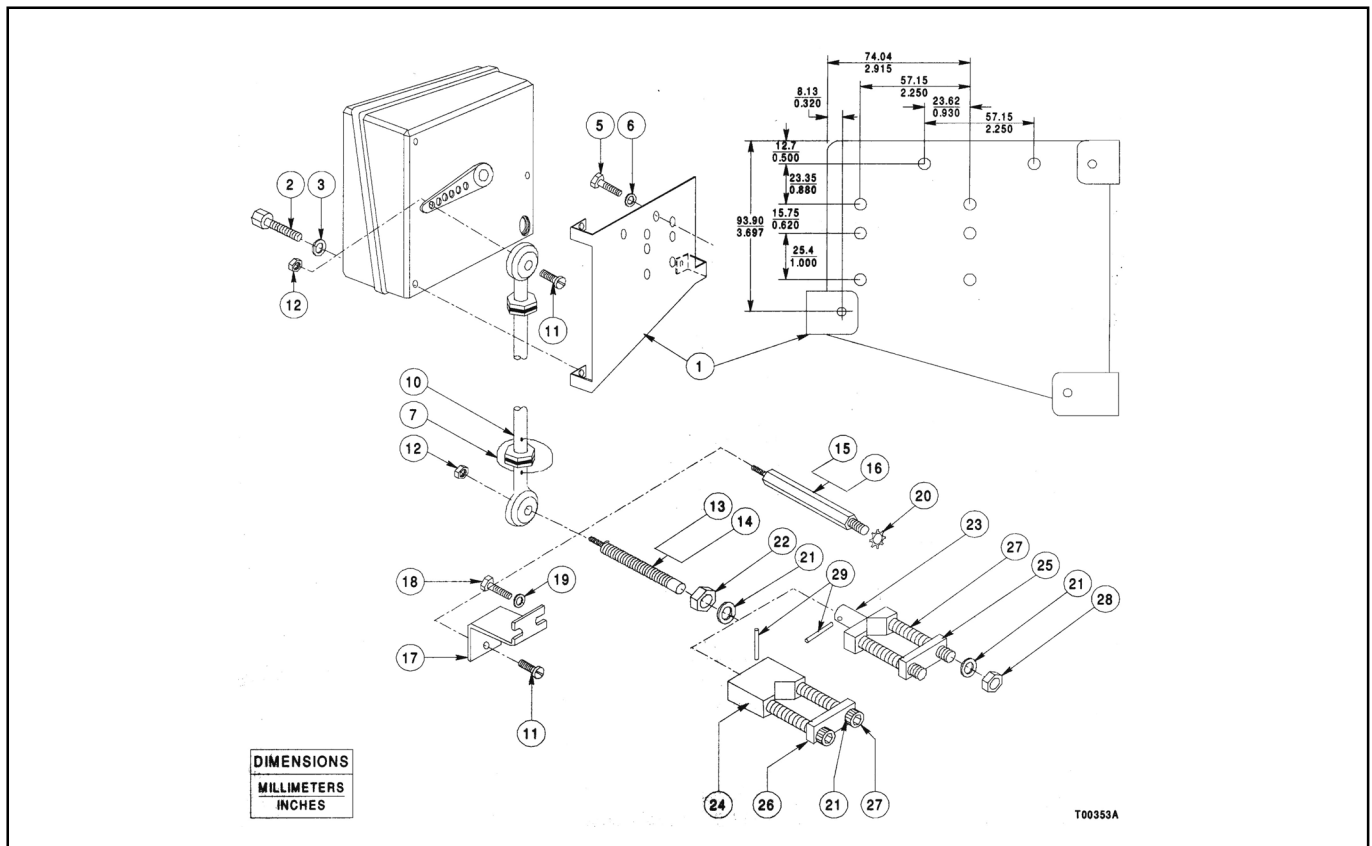

Figure 3. Mounting Kits
- For Use on Fischer Actuators (note 1) Valve Stem 0.375 to 0.750 in. (See Fig. 3)